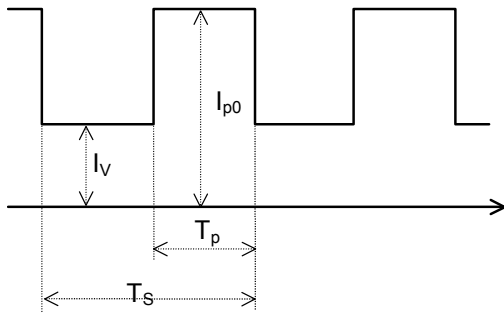
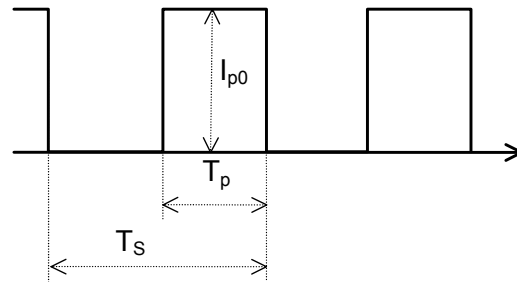

Figure 1
Figure 2
The overload curves, according to IEC 1136 - 1 Standard, are evaluated on a periodic cycle as shown by Fig. 1, at 40 °C ambient temperature. In the  $I_v = 0$  particular case, the load cycle appears as shown by Fig. 2.
**Note 2:** the non-repetitive load cycle shown by Fig. 3 can be considered a particular case of the cycle shown by Fig. 1, where the  $T_s$  time becomes infinitely large.